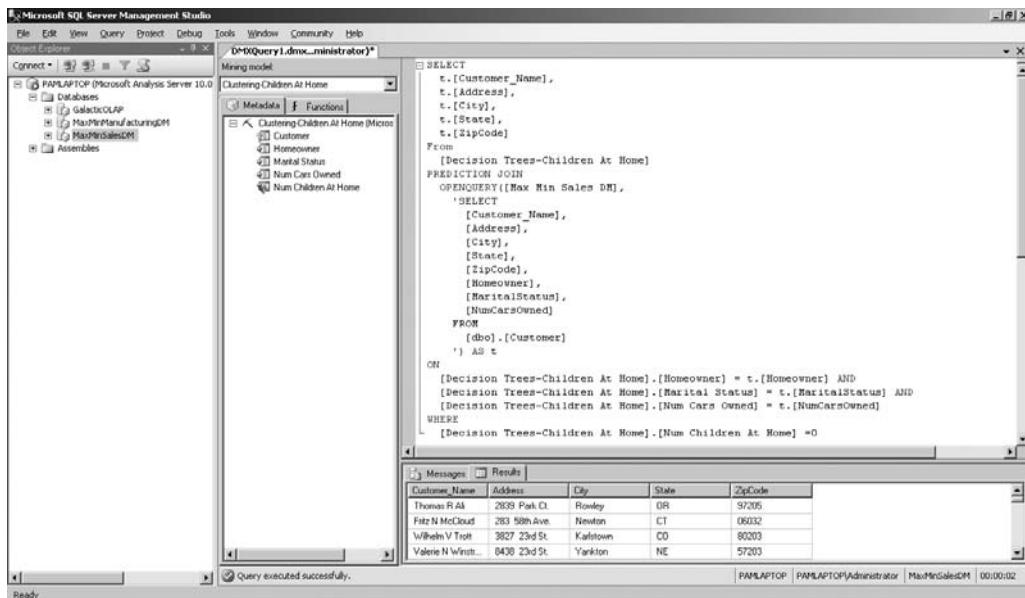

Figure 15-25 Prediction join query
10. If you want to give your fingers a workout, try entering and executing the prediction join query shown in Figure 15-25.